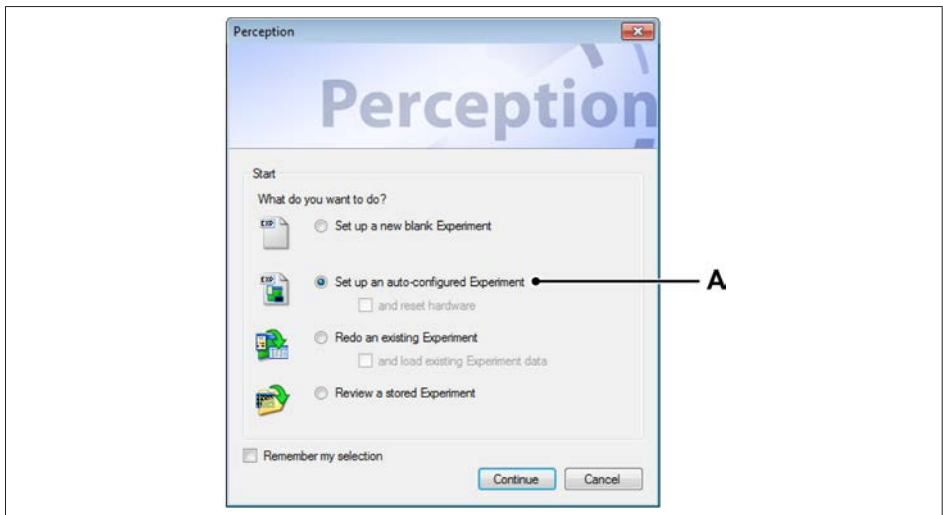

Fig. 8.2 Perception job dialog
2. Perception will ask which job it should perform (see Fig. 8.2)